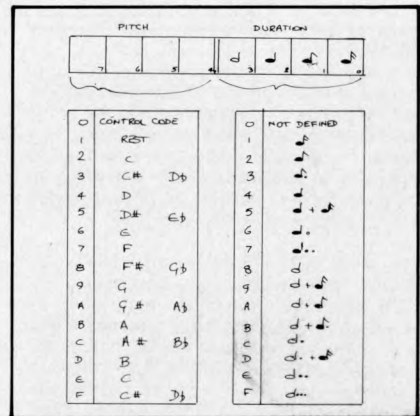

Figure 2. The codes for normal notes. Reference should be made to both the text and figure 1 for explanation.
The codes for all the various functions are summarised in figures 2 & 3, and it will be noticed from figure 3 that not all of the available control codes are used for the octave shift function. These can be used in a variety of ways, as suits the user but a few interesting possibilities are: (1) switching external voicing circuitry to change the characteristics of the note produced, (2) generating synchronising pulses to, for instance, facilitate multi-track recording or (3) to trigger percussion generators. This latter is possibly the easiest to implement since the extra circuitry is very simple.